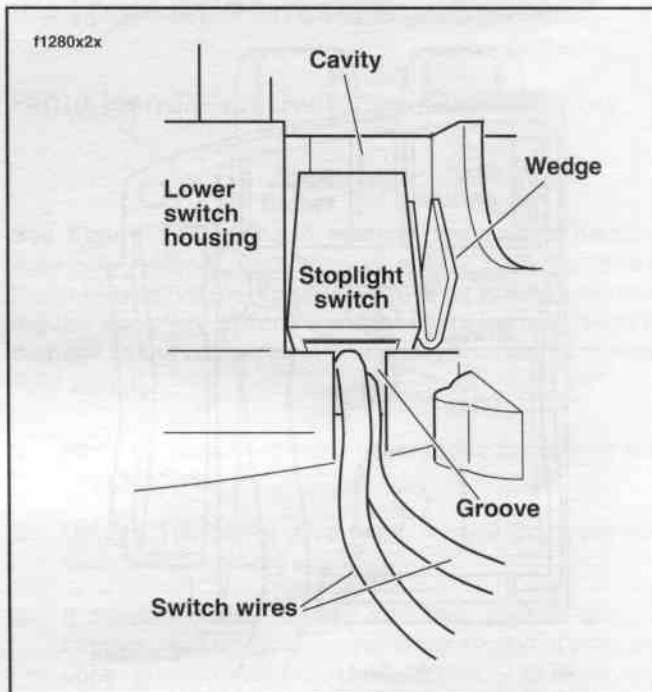

Figure 8-70. Install Stoplight Switch
6. See Figure 8-70. Push down on switch so that it bottoms against housing and wires run in groove at base of cavity. With the concave side facing outward, insert wedge between switch and outboard side of switch housing.